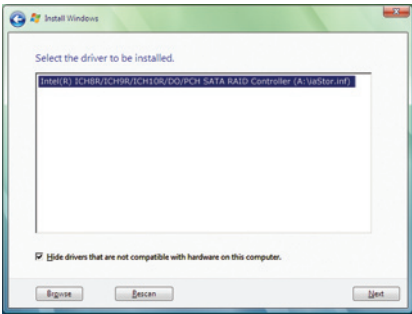

Figure 6
When a screen as shown in Figure 6 appears, select **Intel(R) ICH8R/ICH9R/ICH10R/DO/PCH SATA RAID Controller** and click **Next**.